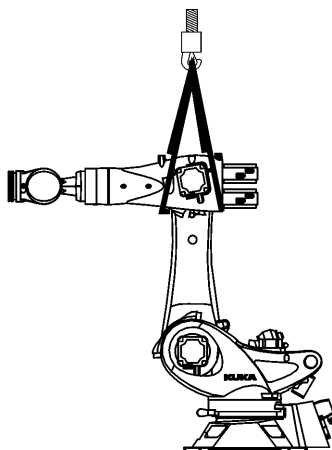

Fig. 10-1: Securing the link arm
1. Move the link arm into a vertical position and secure it using a crane (>>> Fig. 10-1); position for ceiling-mounted robots: -140°. The link arm must not be able to move after reducing the oil pressure.